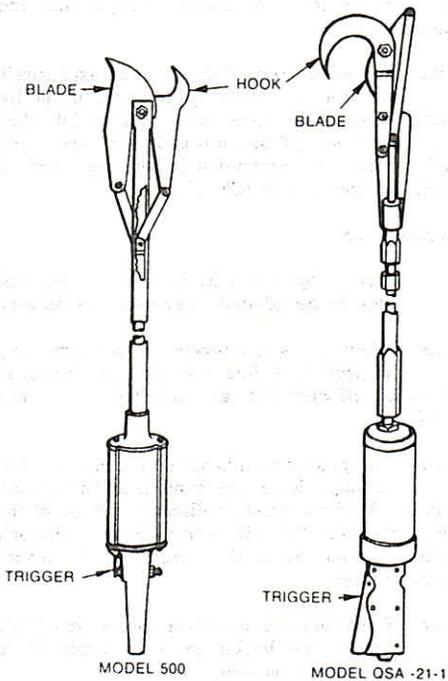

Fig. 4—Typical Pneumatic Pruners
7.10 The pruners shown in Fig. 4 are typical pneumatic pruners. The model 500 is 4-1/2 feet long and weighs 7 lbs. The model QSA:21-1 is 6 feet 8 inches long and weighs 9-1/2 lbs. Both have the same cutting capacity, 1-1/2 inches.